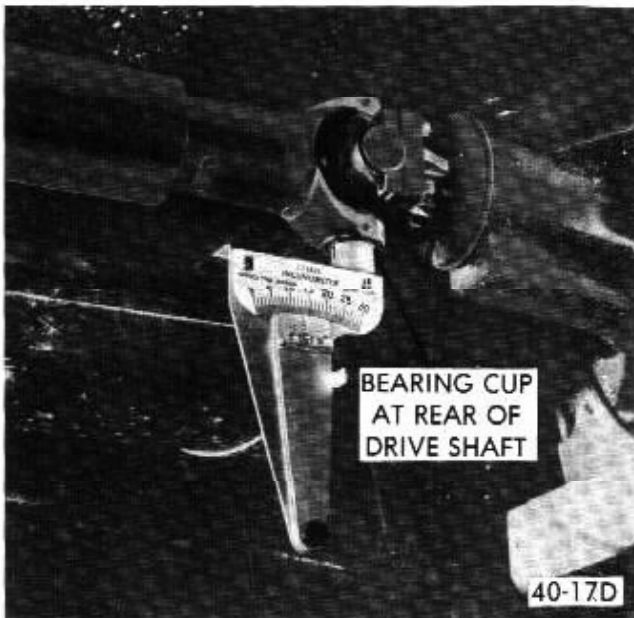

Figure 40-51 Measuring Angle at Rear of Propeller Shaft
1. Place inclinometer on rear propeller shaft bearing cap. See Figure 40-51. Center bubble in sight glass and record measurement.